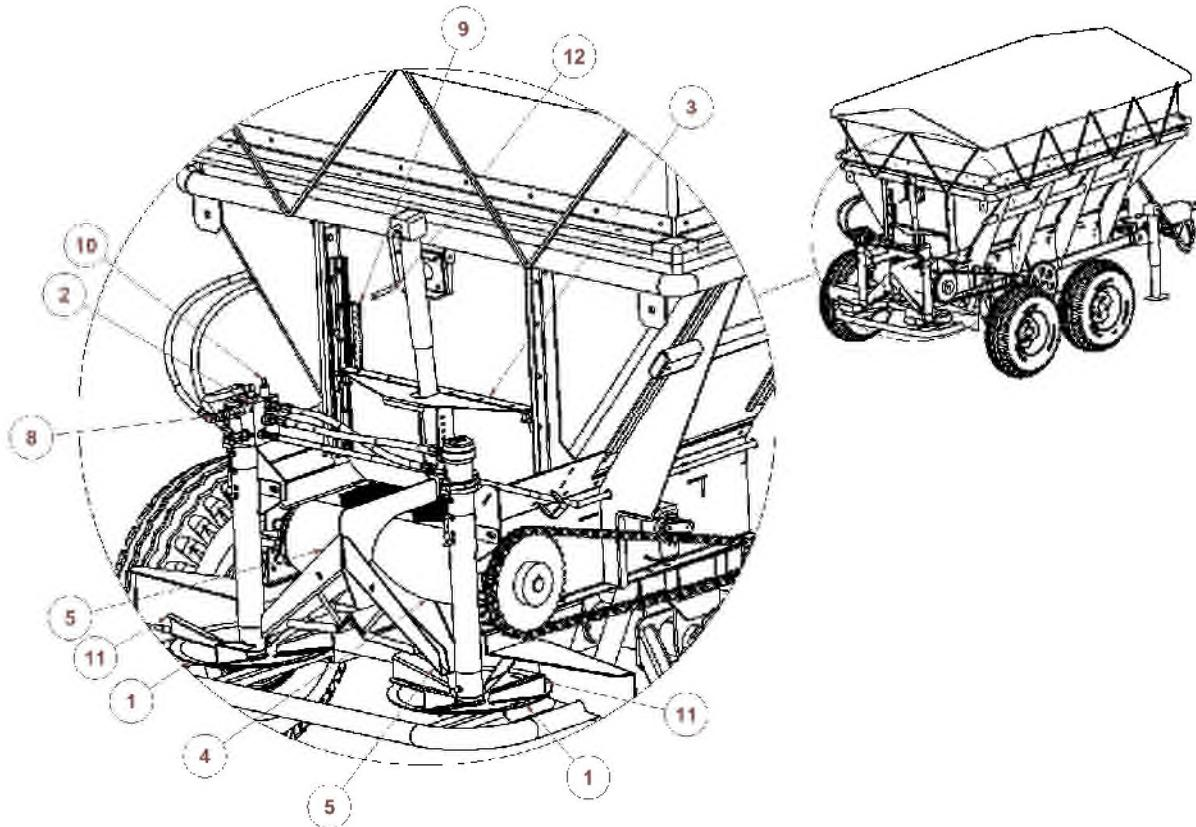
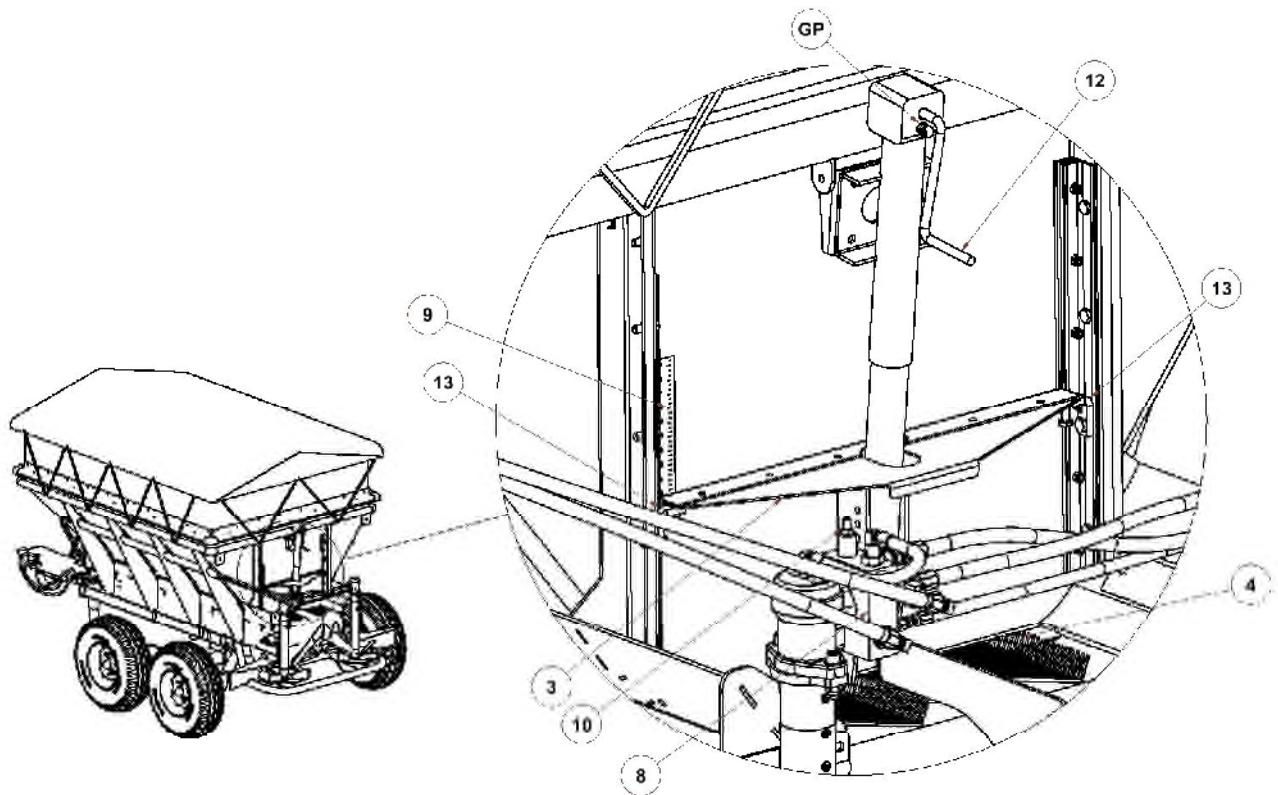

Figure 7 – Spreader Control
Figure 8 – Rear Shutter Control
- When the spinners (1) are engaged, hydraulic oil flows to the motors (2) via a control valve (2). Power from motors is transferred to the spinners via internal drive couplers within the spinner housings (Fig 7).
- The release of the fertiliser is controlled by vertical movement of the flow control shutter (3) (Fig 7). When engaged, fertiliser then falls from the belt (4) (fig 8) onto the two diverters (5) (Fig 7) directing fertiliser to the centre of two spinners (1) (Fig 7) which throws the fertiliser with the help of four directional flights (11) outwards to cover a span of at least 25 metres.
- The hydraulic system is both protected and controlled by the control valve assembly. Spinners speed and Pressure relief valve (10) (Fig 7) are factory set and should not need adjustment. A Non Return Valve (8) is installed to prevent inadvertent hose connection.
- The rear door shutter (3) is adjusted via the screw thread shutter control (12) and is manually operated by a handle (Fig. 8).
- The volume allowed under the shutter (3) onto the belt (4) is indicated by a scale (9) on the end of the bin (Fig 8). Each segment on the scale indicates 100 Kgs per hectare (approx) or 1 cwt per acre (approx) relating to the spread rate for the 4000 spreader. The spread rate for the 6000 spreader is calculated at a multiple of 2.6 times that of the 4000 spreader rates.
- Stops (13) (fig 8) each side of the shutter are factory set to stop the shutter from contacting the belt. A minimum 2mm clearance between the belt (4) and lower edge of shutter (3) should be clearly visible throughout the entire belt rotation.